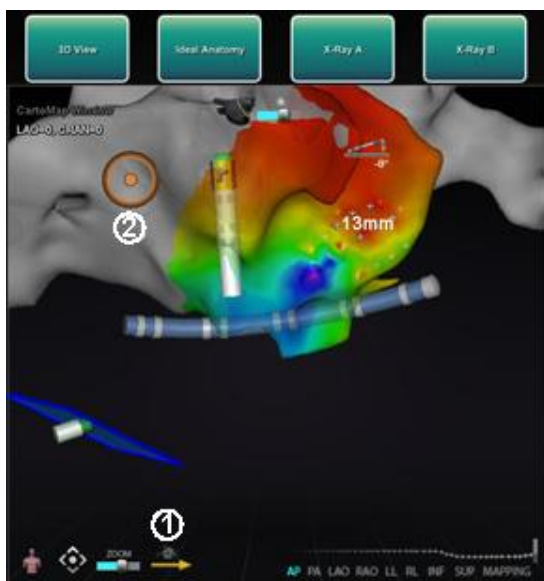

Figure 166. TargetNav targeting
To move the target to the desired point, simply click it (**Figure 166**). While in this mode, you may move the target multiple times.
TargetNav guide (Figure 166 – Figure 169)
- ① **Vector Show/Hide mode.** Click the gray arrow icon with the diagonal red line across it (**Figure 169**) to hide the vector from display, or click the gold arrow (**Figure 168**) to return it to display. For example, if no vector is showing, as in **Figure 166** and **Figure 167**, the gold-arrow icon can be selected to show the vector. If the vector is displayed, the gray arrow with the red line can be selected to hide the vector.
**Note:** The target in **Figure 167** was moved slightly from its position in **Figure 166**.